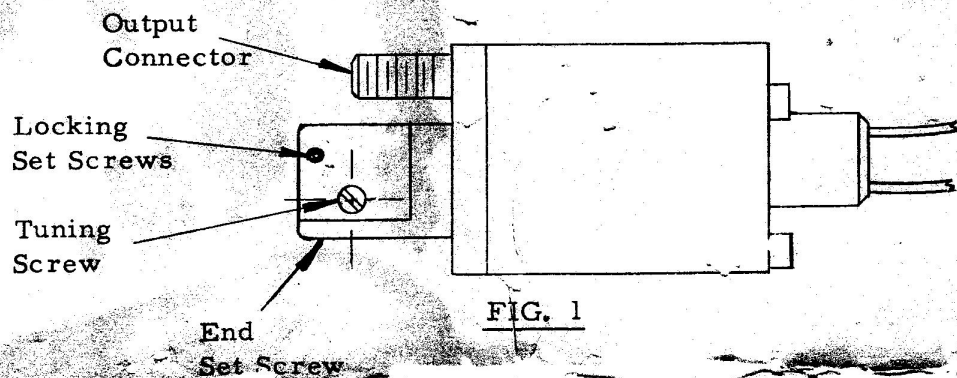

FIG. 1
1. Release locking set screws as shown in Fig. 1. Make sure the end set screw is not loosened as it holds the Tuner Bearing.